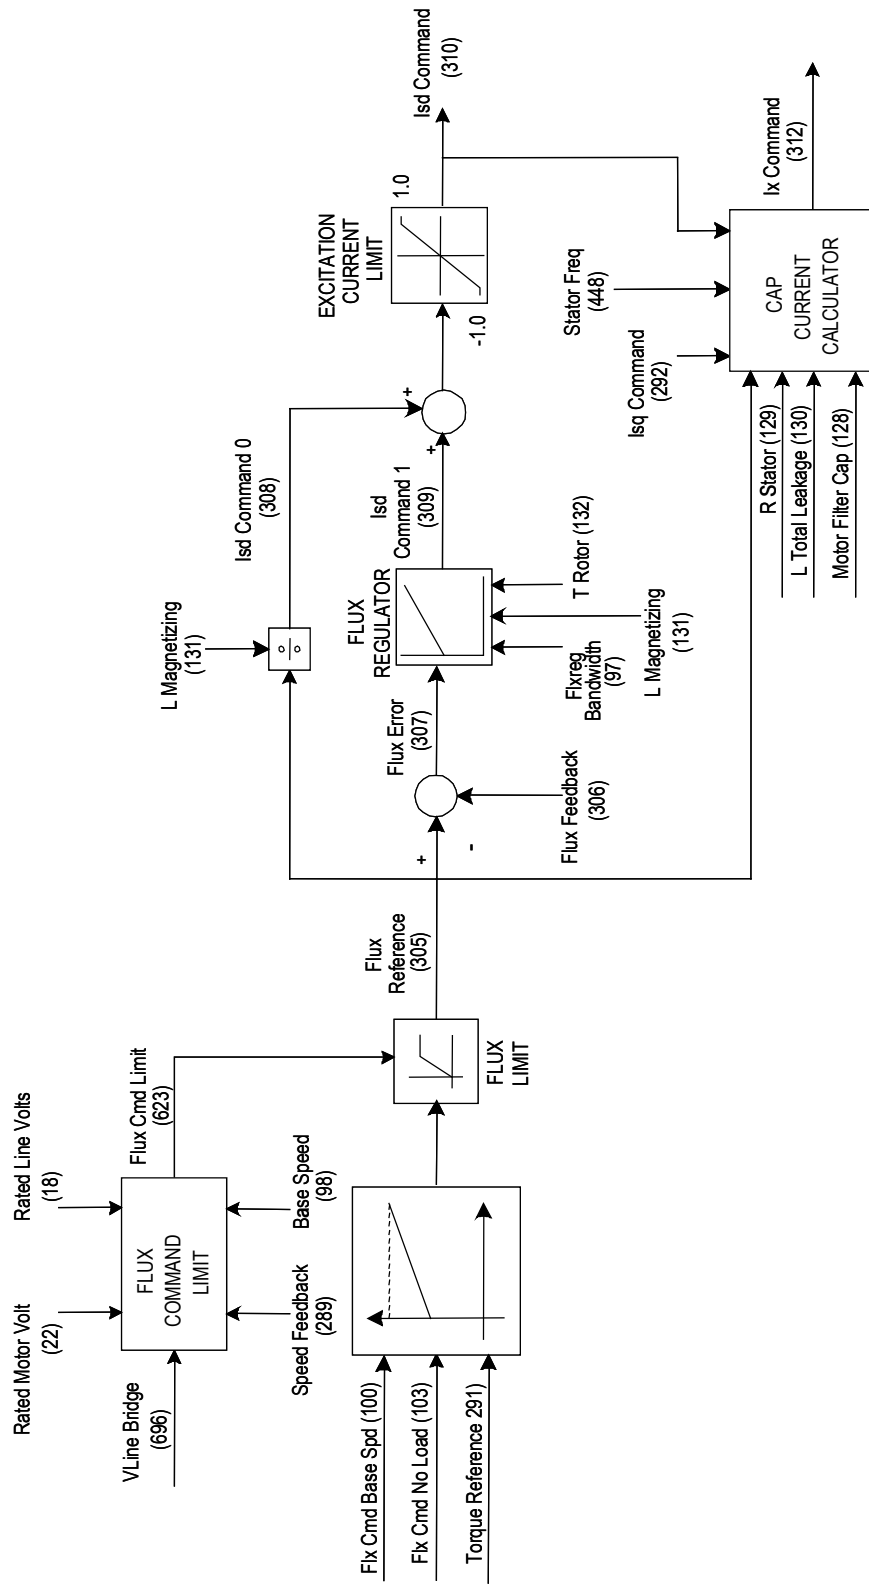

Figure 5.5 – Flux Control
The function of the flux control block (Figure 5.5) is to determine the magnetizing component (I_{sd}) of the stator current (I_s) needed to maintain the desired flux profile in the motor. The inputs are *Flux Feedback* (306) and *Stator Freq* (448) from the motor model, *Speed Feedback* (289) and *Torque Reference* (291) from the speed control block and the measured voltage at the input of the bridge *Vline Bridge* (696).